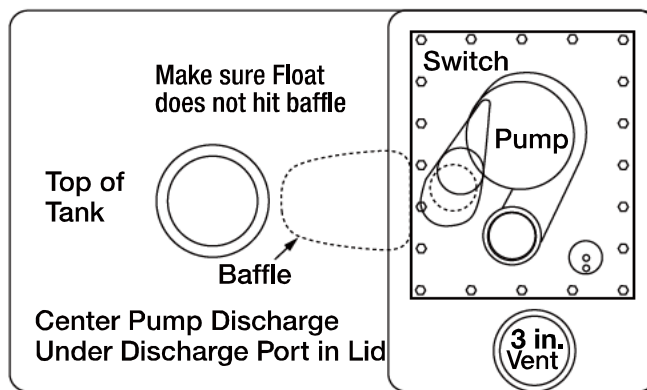

Figure 2: Center the pump discharge under the discharge grommet in the lid; make sure the switch does not hit the baffle in the tank.
4. Set the pump in the pump chamber with the discharge toward the right back corner as viewed from the toilet opening (see Figure 2). Line up the pump discharge with the 3 in. hole in the tank lid, then swing the pump so that the vertical float switch is shielded (from solids) as much as possible by the baffle in the tank between the toilet mounting hole and the pump chamber (see Figure 2). Shim the pump as required to make it steady in the pump chamber.